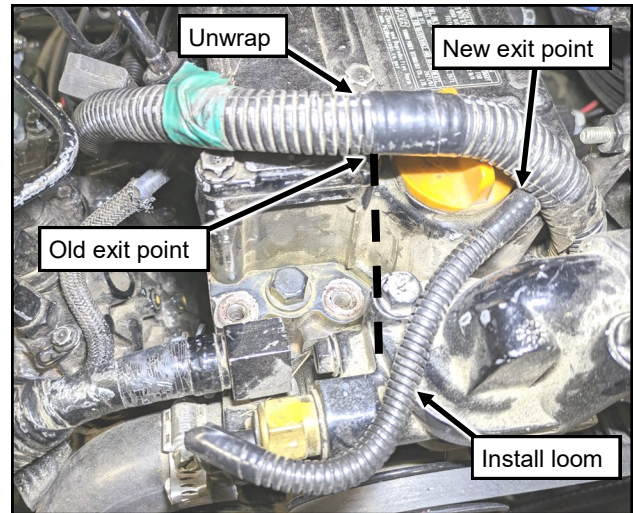

Fig. 1.34 (Move and wrap water temp. sensor wires)
**1.34** Unwrap the loom tape next to the water temperature sensor wires. Move the exit point of the wires about 2" forward from where the dashed lines show in figure 1.34. Tape the wires in place and add the supplied wire loom.